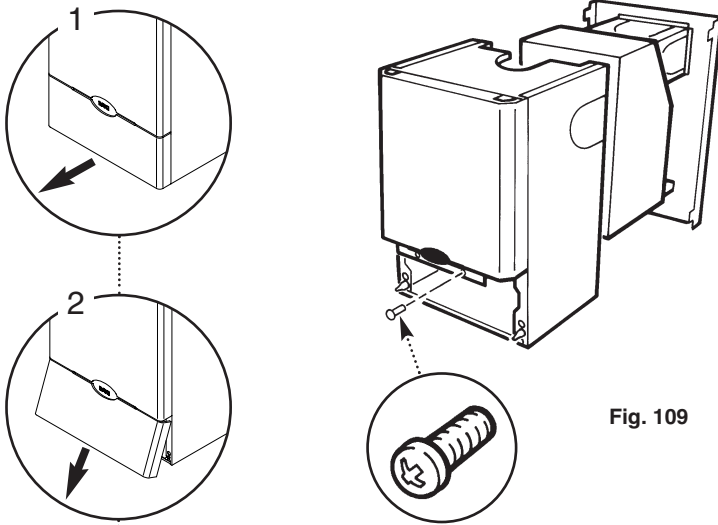

Fig. 109
4. Remove the outer case from the boiler by unscrewing the two screws and lift the case clear (Fig 109).